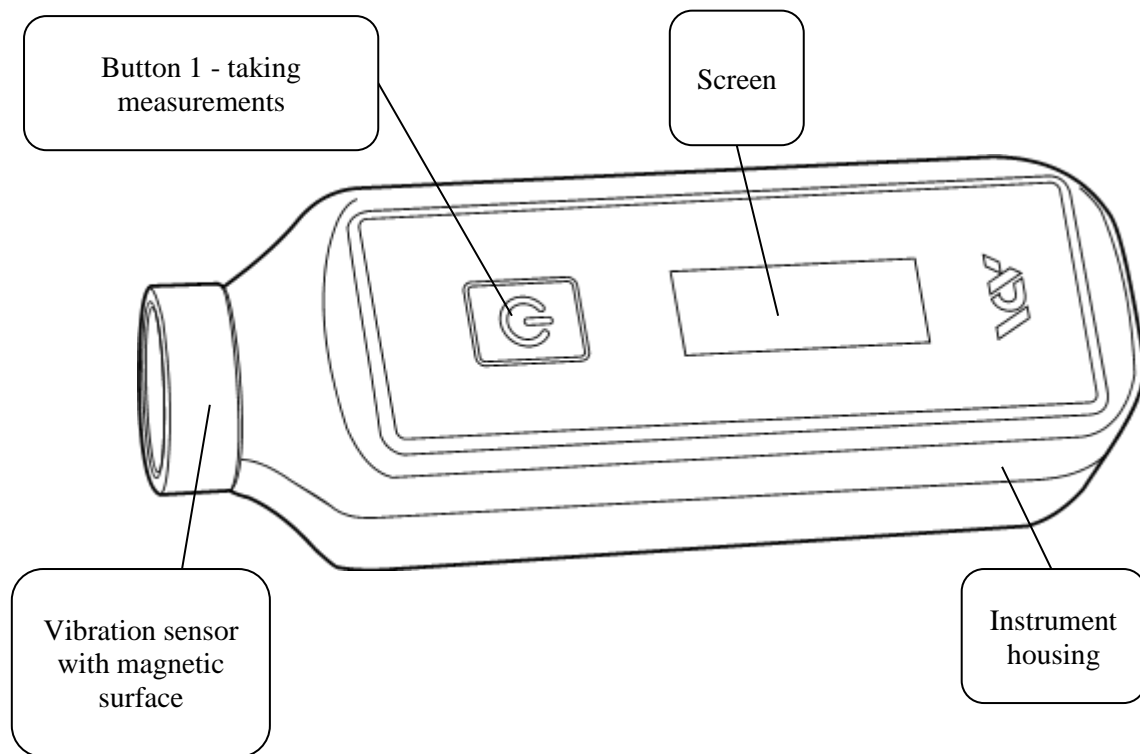

Figure 1.1 - General view of the device
1.3.1 The general view of the device is shown in the figure 1.1.
To work with the device, install the vibration sensor on the controlled surface and hold button 1 (Fig. 1.1). On the screen of the instrument, readings regarding the vibration of the control surface will appear.
Hold the instrument perpendicular to the surface to be measured. Start measuring with the push of a button. Vibration is measured after holding button 1 (Fig. 1.1).